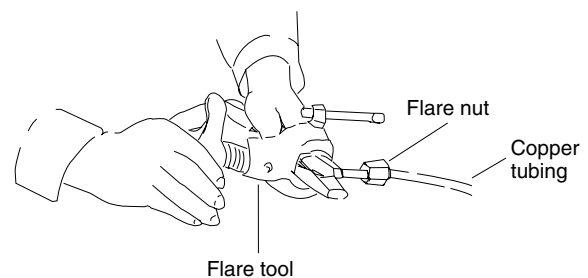

Fig. 4-3
- (3) Remove the flare nut from the unit and be sure to mount it on the copper tube.
- (4) Make a flare at the end of copper tube with a flare tool.* (Fig. 4-3)